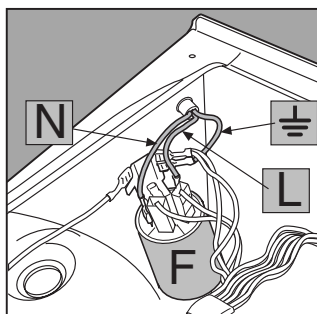

Fig. 10
- Disconnect the small cables from the radio interference suppressor F (Fig. 10) taking care as to their position (small cable: **Blue=N**; small cable: **brown=L**), leaving the Earth  $\perp$  small cable til last.